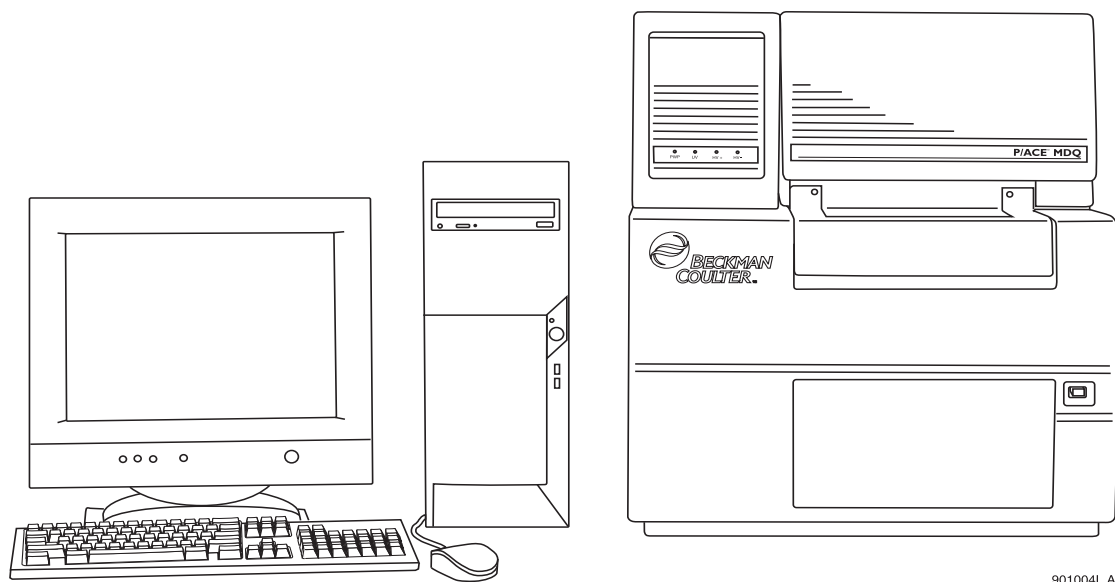

Figure 3.2 Placement of Computer and P/ACE MDQ Instrument on Work Surface
4. Position the instrument and computer as shown in Figure 3.2